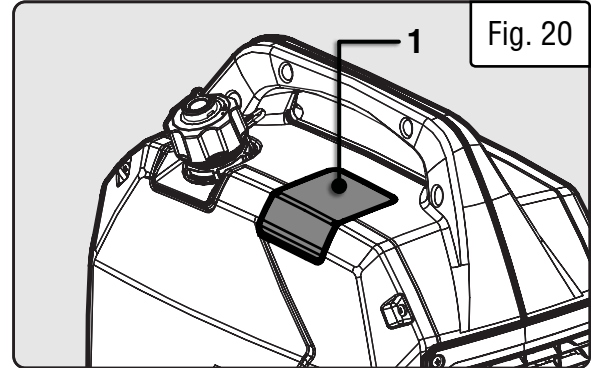

Fig. 20
1. Open the spark plug access cover (Fig. 20 - 1).